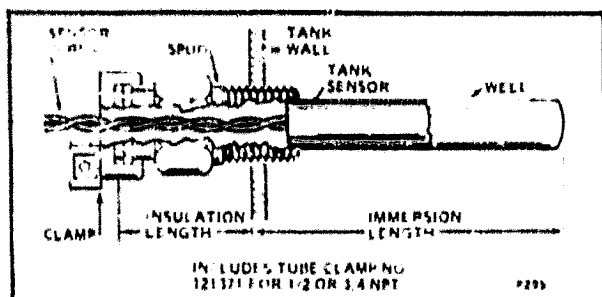

FIG. 2—TANK SENSOR INSERTED INTO IMMERSION WELL.
**Immersion Well.** For mounting C773 Electronic Temperature Sensor in storage tank. See Fig. 2 and Table 1.
4. Insert the sensor probe into the immersion well until it bottoms. See Fig. 2.